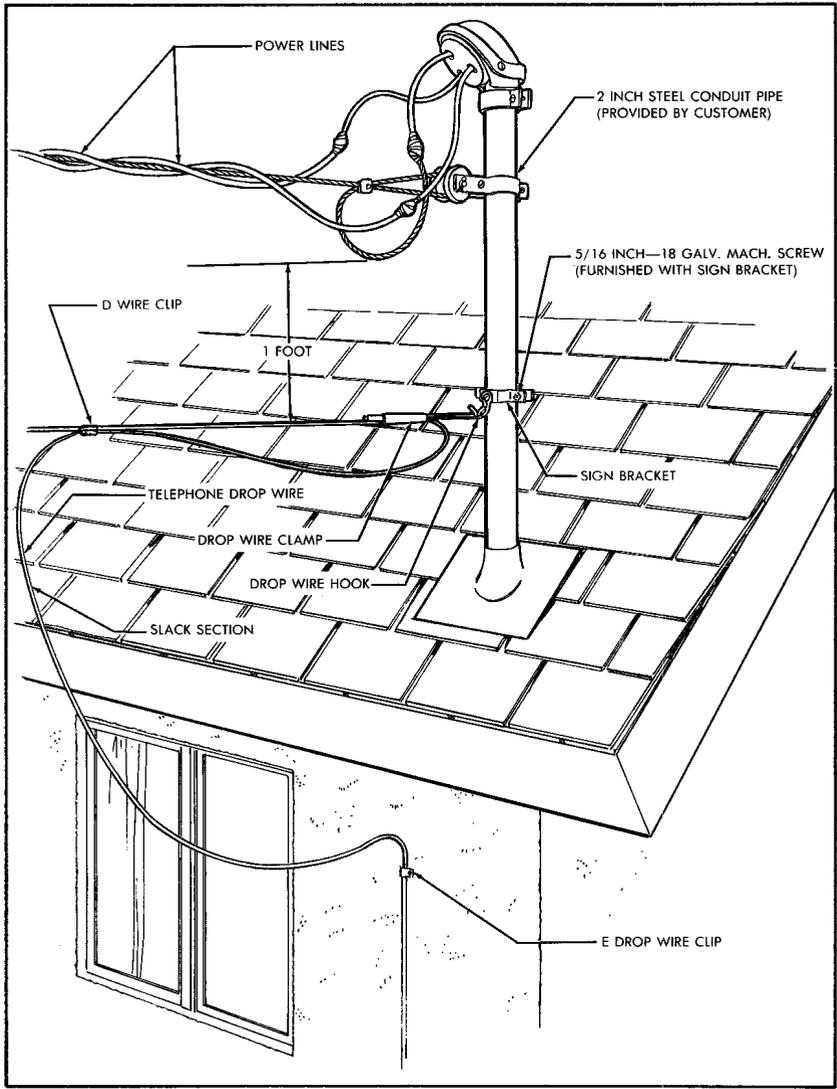

FIGURE 10. Drop Wire Attached To Power Fixture
**6.01** Figures 10 through 12 show typical clearance fixtures commonly provided by customers, and the recommended methods of making drop wire attachment. Where other types of fixtures are provided and different methods of making drop wire attachments are required, local instructions should be issued.